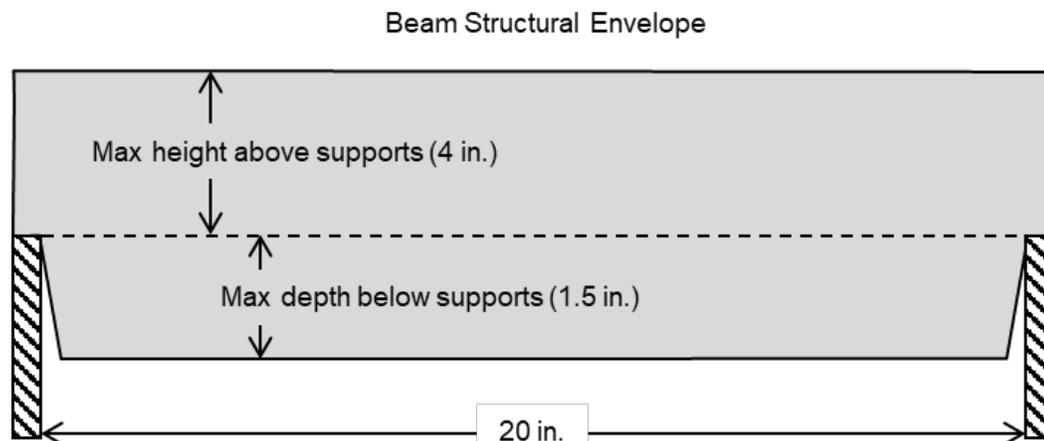

Figure 2. Bridge Supports and Geometrical Constraints
3. The beam must be designed to fit on the support shown in Figure 2. Beams may be supported only off the top surfaces of the supports. Members may **not** brace off the sides or the horizontal bottom of the support.
Once the beam is placed on the supports, no portion of the beam may extend more than 4 in. above the supports or 1.5 in. below the supports. The beam must fit into the gray-shaded structural envelope as shown in Figure 2.
5. The beam may be built-up for multiple layers of chipboard to form any thickness and shape required for the design within the tolerances stated in Item 4 and shown in Figure 2. Individual chipboard sheets cannot be coated or treated in any way except when glued together.
7. The shape and dimensions of cross-section of the beam may vary along the beam as long it fits in to the beam structural envelope shown in Figure 2.